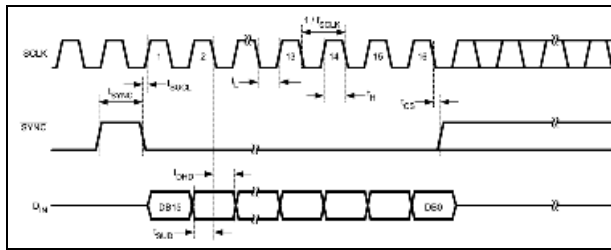

Figure 2: Digital Input Timing Diagram
2. Create the digital waveforms seen in *Figure 2* with your Logic Generator. Ensure that SCLK doesn't exceed 30MHz. Refer to "Section 4.1: Serial Interface" and the DAC121S101 Datasheet for further details.
In *Stand-Alone Mode*, The serial interface must be driven by an external device. The three-wire interface (SCLK, SYNC, D_{IN}) is compatible with SPI, QSPI and MICROWIRE, as well as most DSPs. See the Timing Diagram (*Figure 2*) for information on a write sequence.